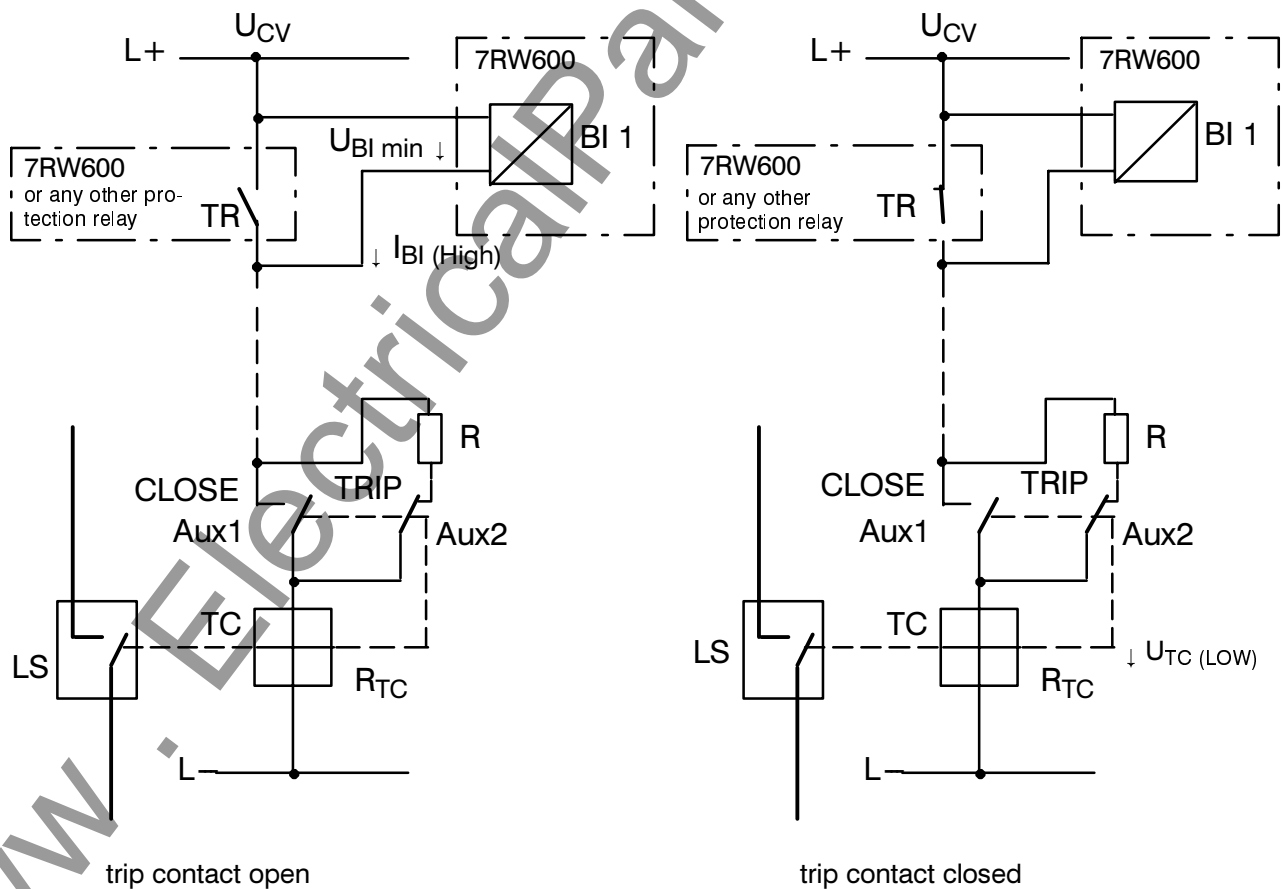

Figure 5.6 Dimensioning the external resistor R when one single binary input is used
If one single binary input is available (Figure 5.6), an external resistor R must be connected in the circuit of the breaker auxiliary contact (Aux2), which replaces the missing second binary input (refer also to Section 4.7.2). Thus, a fault is also detected when the NO auxiliary contact is open and the trip relay contact has reset. This resistor must be dimensioned such that the trip coil (TC) of the breaker cannot operate when the breaker is open (Aux1 open and Aux2 closed), but that the binary input (BI1) can operate when the trip contact of the device has opened, at the same time (Figure 5.6).